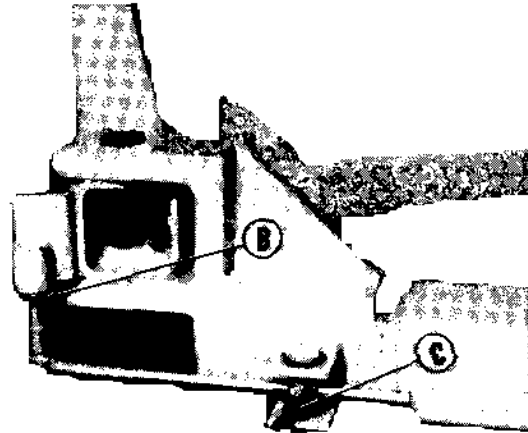

Fig. 23
45. Place one of the 3/4-16 x 5" screws through the pivot tube of the rod and install a 3/4-16" jam nut by running the nut as far as it will go down on screw. (See fig. 23).
46. Install this screw with pivot arm attached into tapped hole in end of carriage. Tighten until rod is level with arm and tighten jam nut to secure. Install "T-screw" into each pivot. (See fig. 23).